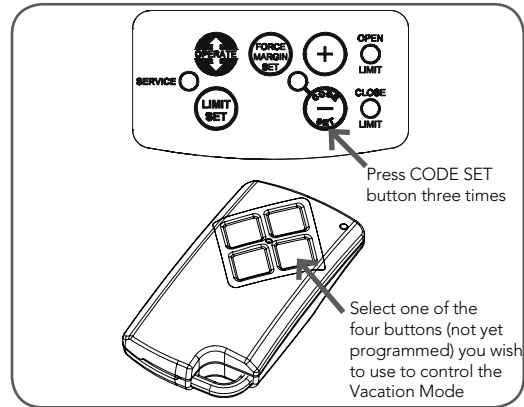

fig 32
- Press CODE SET button three times. The CODE SET LED will illuminate and the courtesy light will flash slowly (once every two seconds) to indicate Vacation learning mode is active. (Fig. 32)
- Press the same transmitter button again. The CODE SET LED will illuminate for one second and then go out, and the courtesy light will also switch off. This indicates the code has been stored (Fig. 32).